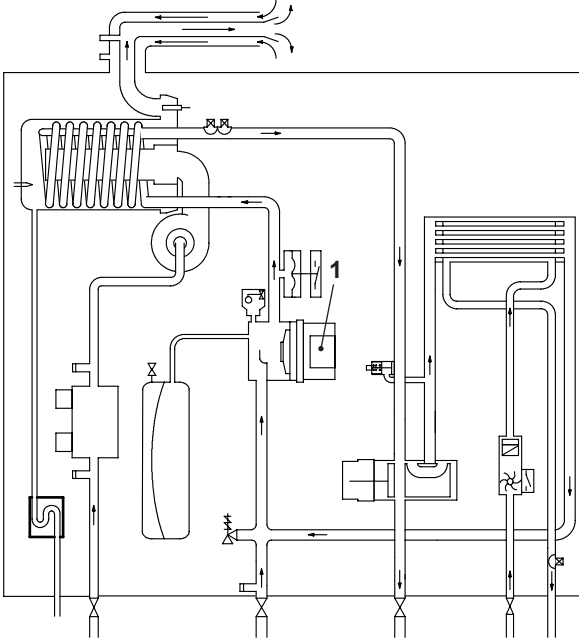
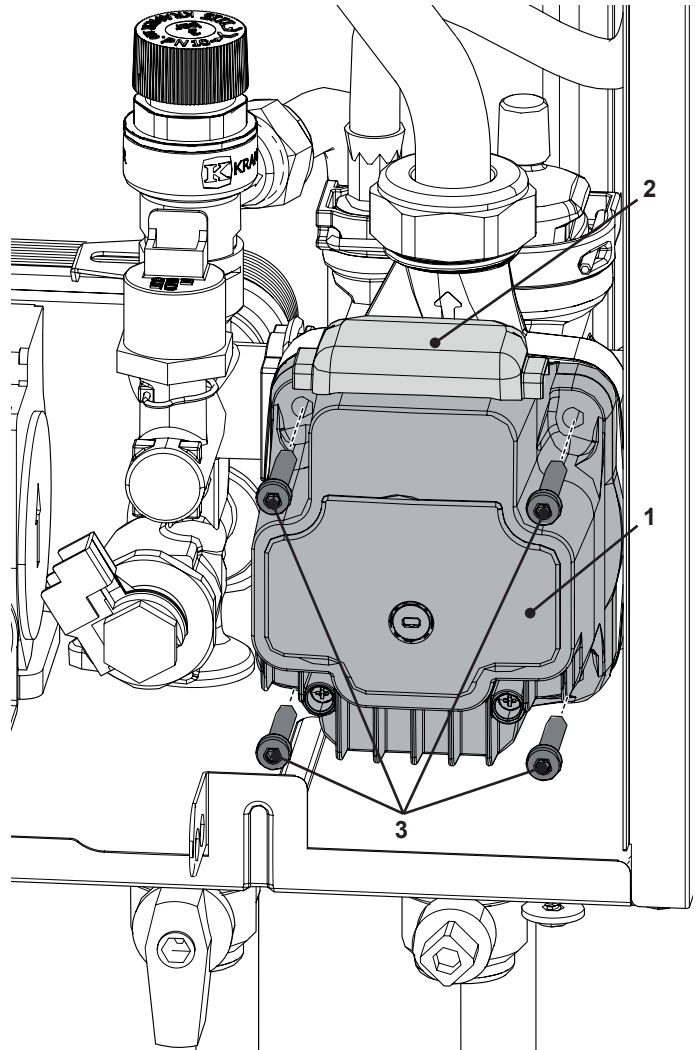

Figure 7.1
Figure 7.2
The pump "1" in Figure 7.1 and Figure 7.2 has the function of making the water in the main circuit circulate through the main condensing heat exchanger and therefore through the C.H. system (during the C.H. function) or through the secondary heat exchanger (during the D.H.W. function).
- 3 Disconnect the connector "2" (Figure 7.2).